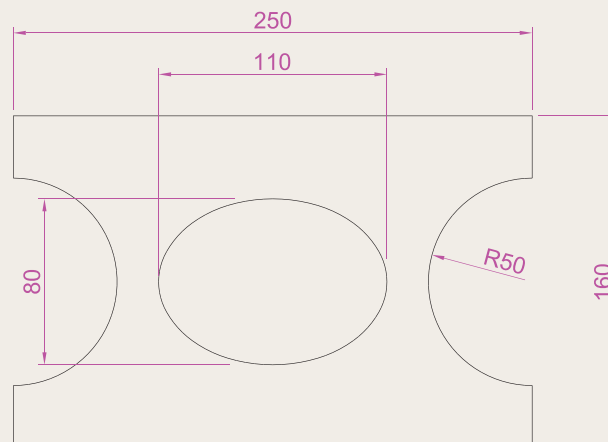

Fig. 12.53 Exercise 7
7. Working to the dimensions given in Fig. 12.53 construct an extrusion of the plate to a height of **5** units.